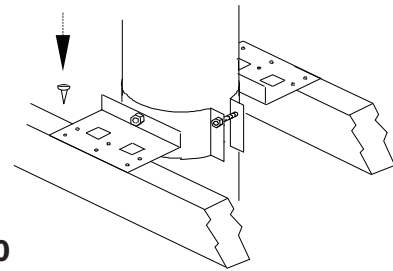

Figure 30
With the chimney extending through the opening in the roof, ceiling or floor proceed as follows (Refer to **Figures 30 & 31** for visual references):
- Step 4. Center the chimney and nail or screw the support to the roof or floor using (8) - 2-1/2" nails or (8) #8 - 1-1/4" wood screws (see **Figure 30**).
1. Assemble the two (2) portions of the Universal Collar as described above under Universal Collar and **Fig. A**.
4. Center the chimney and maintain the required 2" air space clearance to combustible materials. Secure the support to the roof or floor using (8) - 2-1/2" nails or (8) #8 - 1-1/4" wood screws. Refer to **Figures 30 & 31** for more information.